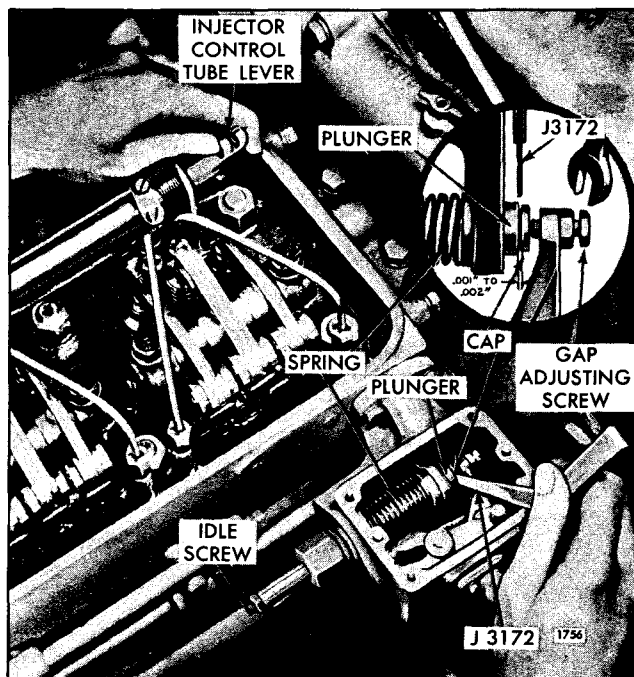

Fig. 2 - Adjusting Gap (Double Weight Governor)
3. Start the engine and loosen the idle speed adjusting screw lock nut and adjust the idle screw to obtain the desired engine idle speed (Fig. 2). Hold the screw and tighten the lock nut to hold the adjustment.
7. Check the gap between the low-speed spring cap and the high-speed plunger with a .0015" feeler gage (Fig. 2). If the gap setting is incorrect, reset the gap adjusting screw. If the setting is correct, the .0015" movement can be seen by placing a few drops of oil into the governor gap and pressing a screw driver against the gap adjusting screw. Movement of the cap toward the plunger will force the oil from the gap in the form of a small bead.